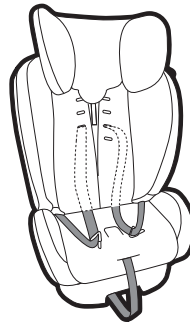

Figure 2
Step 2: Do the child's knees bend in front of the edge of the seat? (refer Figure 2).
Step 2: Continue to shorten until you have reached the desired position at the rear of the restraint (see Figure 2).